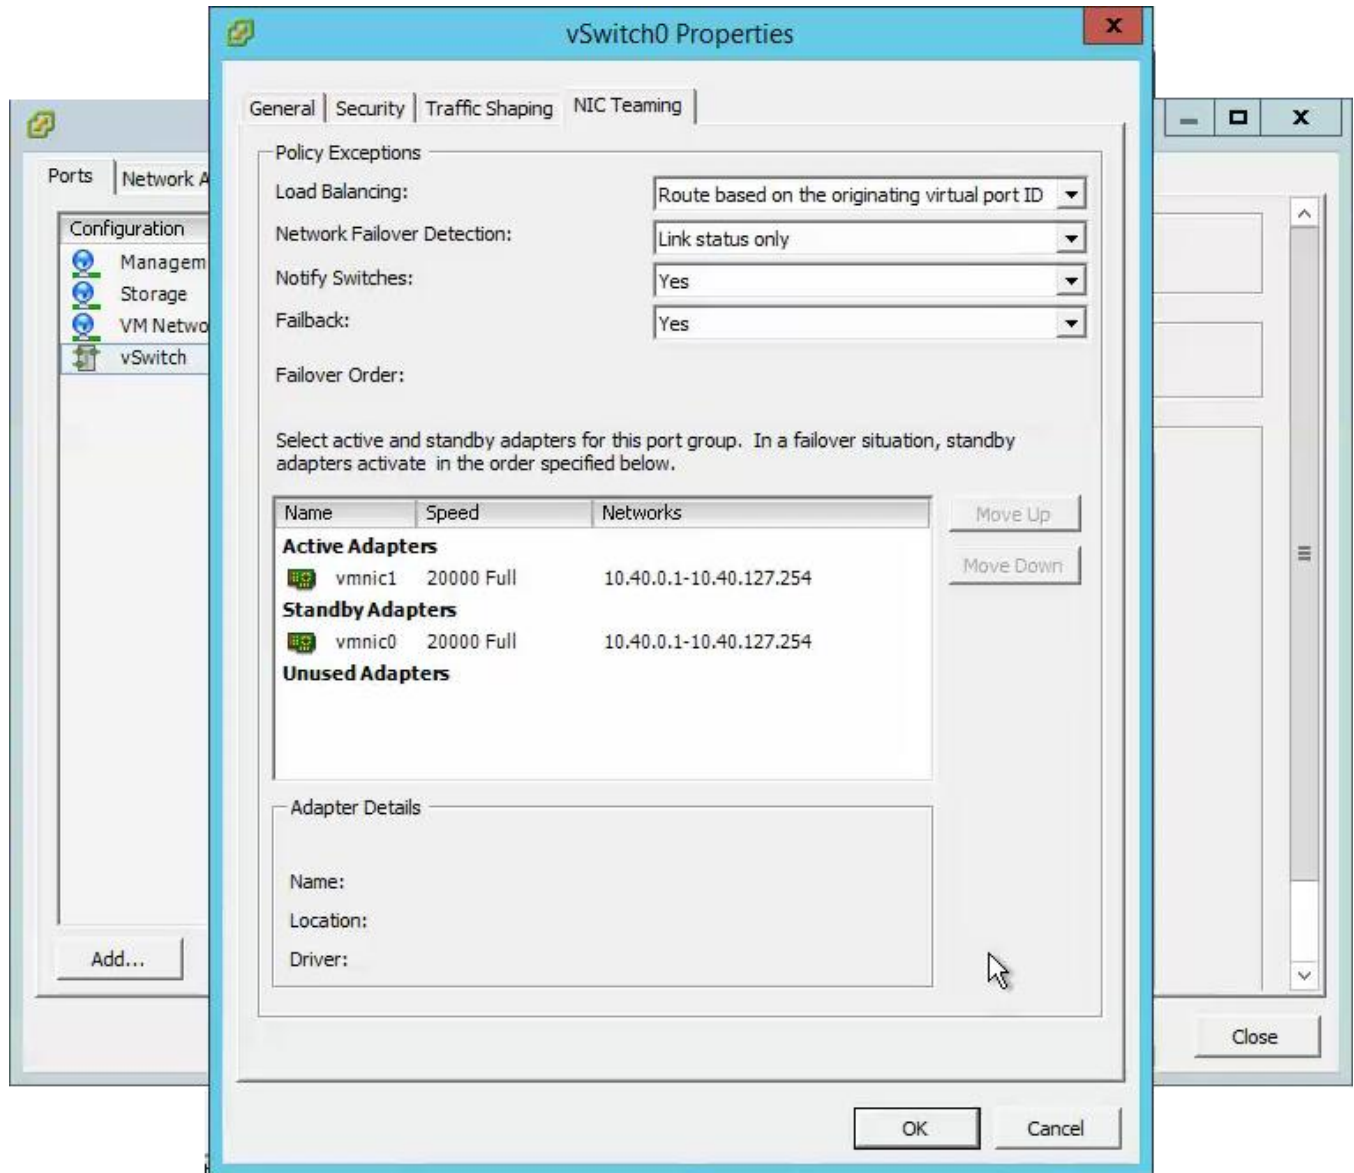

Figure 26 – Proper configuration of vmnic0 and vmnic1 for a vStandard switch.
10. Use the “Move Up” and “Move Down” buttons to configure vmnic0 so it’s under Standby Adapters and configure vmnic1 so it’s under Active Adapters. (See Figure 26)